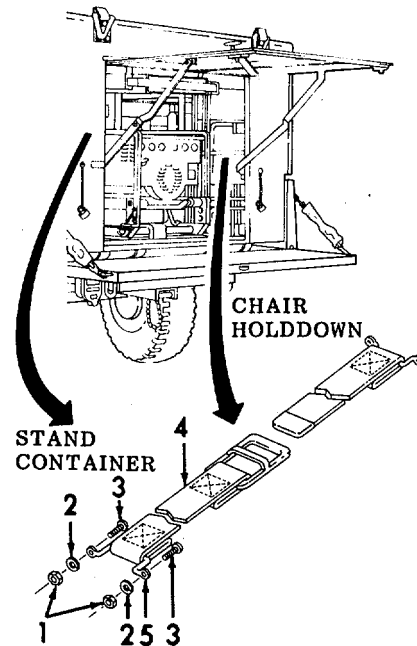

Figure 5-1. Chair Holddown and Stand Container, Removal.
- (1) Inspect for loose or missing hardware.
- (2) Inspect for torn, ripped, or deteriorated strap webbing.
- (3) Inspect for missing or damaged buckles.
b. Removal. (Refer to Figure 5-1).
- (1) Remove two nuts (1), two lockwashers (2), two bolts (3), and strap (4).
- (2) Separate retainer (5) from strap (4).
- (3) Repeat steps (1) and (2) for other strap.